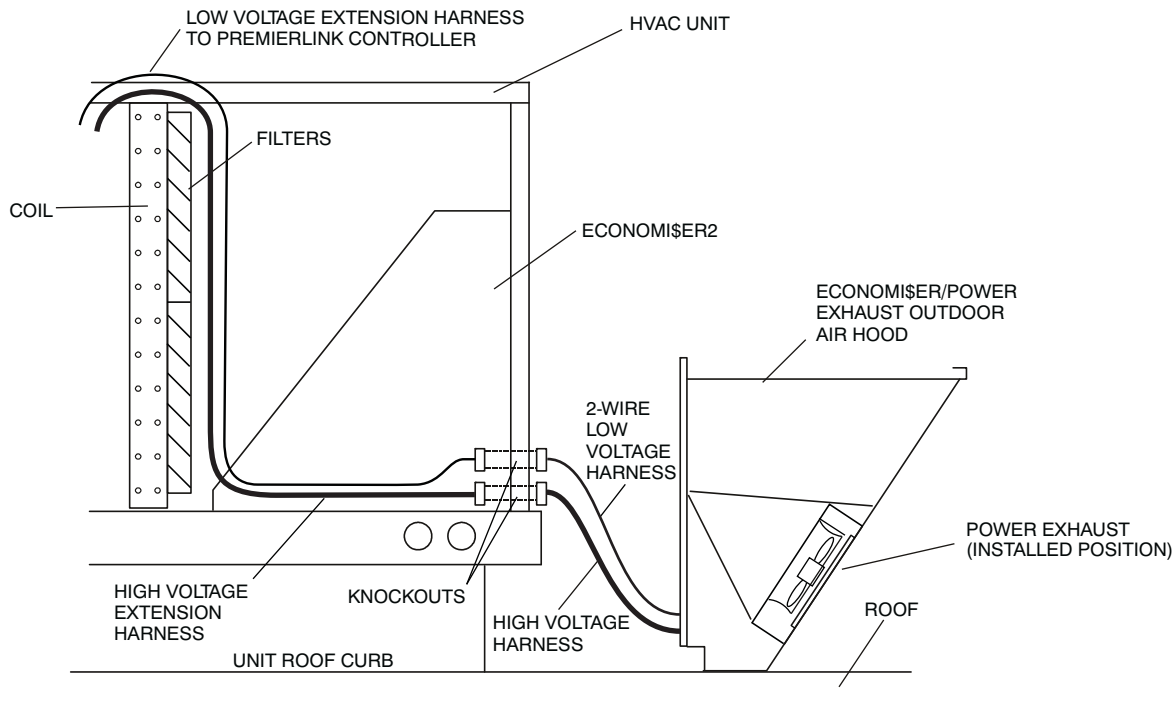

Fig. 8 - Power Exhaust Harness Installation with EconoMi\$er2 and PremierLink Controls
3. From the rear of the EconoMi\$er2, connect the low voltage extension harness plug to the two-wire harness from the power exhaust. (See Fig. 8.)
4. Route the other end of the of the low voltage extension harness to the PremierLink controller. (See Fig. 8.)
7. From the rear of the EconoMi\$er2, connect the long high voltage extension harness plug to the power exhaust harness. (See Fig. 8.)